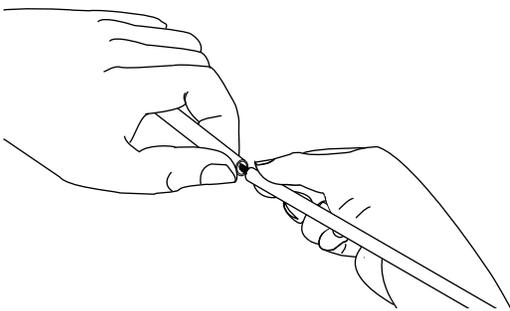

Figure 12
- d) Carefully flex the tube to break it at the score point. The break should be clean and free of rough edges (Figure 12).